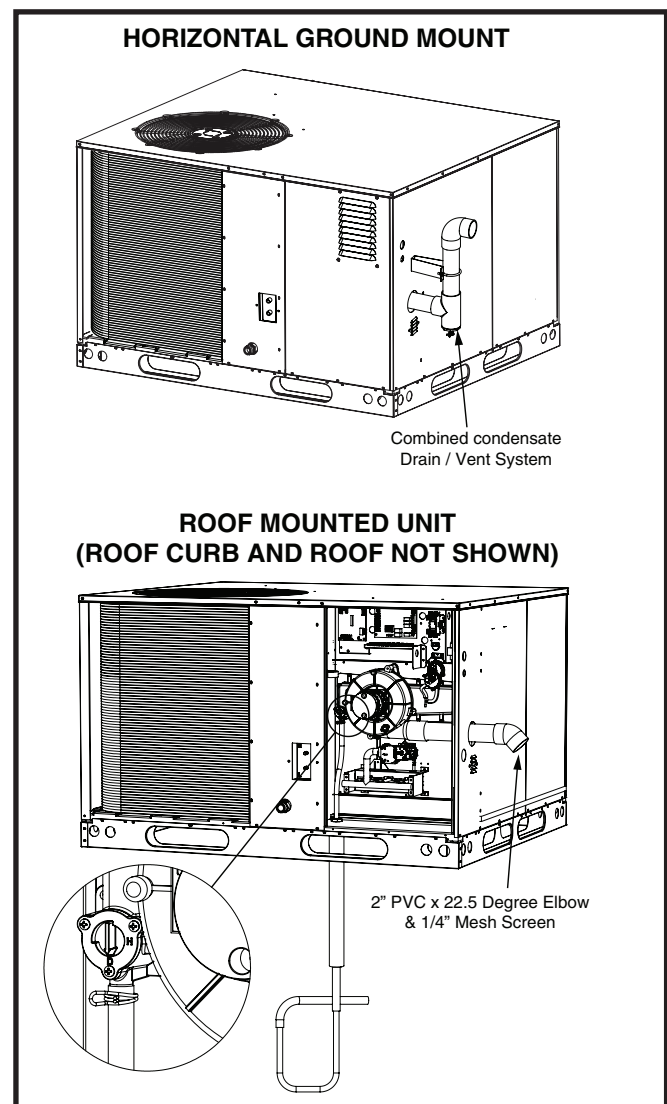

Figure 2. Heat Exchanger Condensate Drain & Vent Assembly
The vent and drain assembly must be installed to assure proper operation of the unit. Figure 2 shows the proper installation of the vent and drain assembly for both horizontal and downflow applications. The fasteners used to secure the vent and drain assembly have been included in the kit. The following list summarizes the requirements for the location of the vent system termination:
- The appropriate accessory roof curb must be installed prior to unit installation. The roof curb must be square and level to ensure proper condensate drainage. See Figure 2 \(page 7\). **Please follow all instructions provided with the kit.**